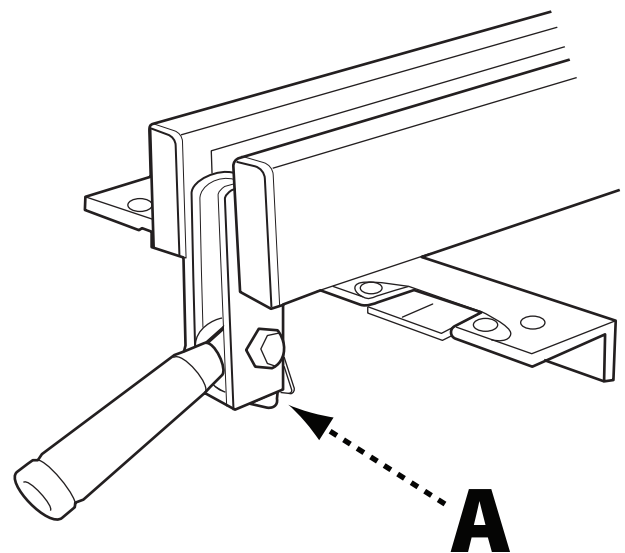

FIGURE 18
2. Apply grease to the cam lock, and the cam foot (A) (Figure 18) occasionally to prevent wear.